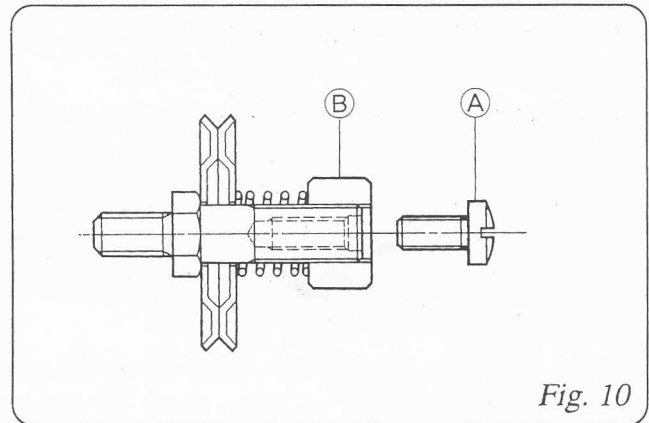

Fig. 10
1. Thread Tension (Fig.10)
The thread tension spring is preset at the factory to sew PP woven cloth bags. If some adjustment is needed, first loosen screw (A) (9/64S40005) and adjust the thread tension nut (B) (245092) as per Fig.10. When the adjustment is finished, retighten screw to lock the thread tension nut.